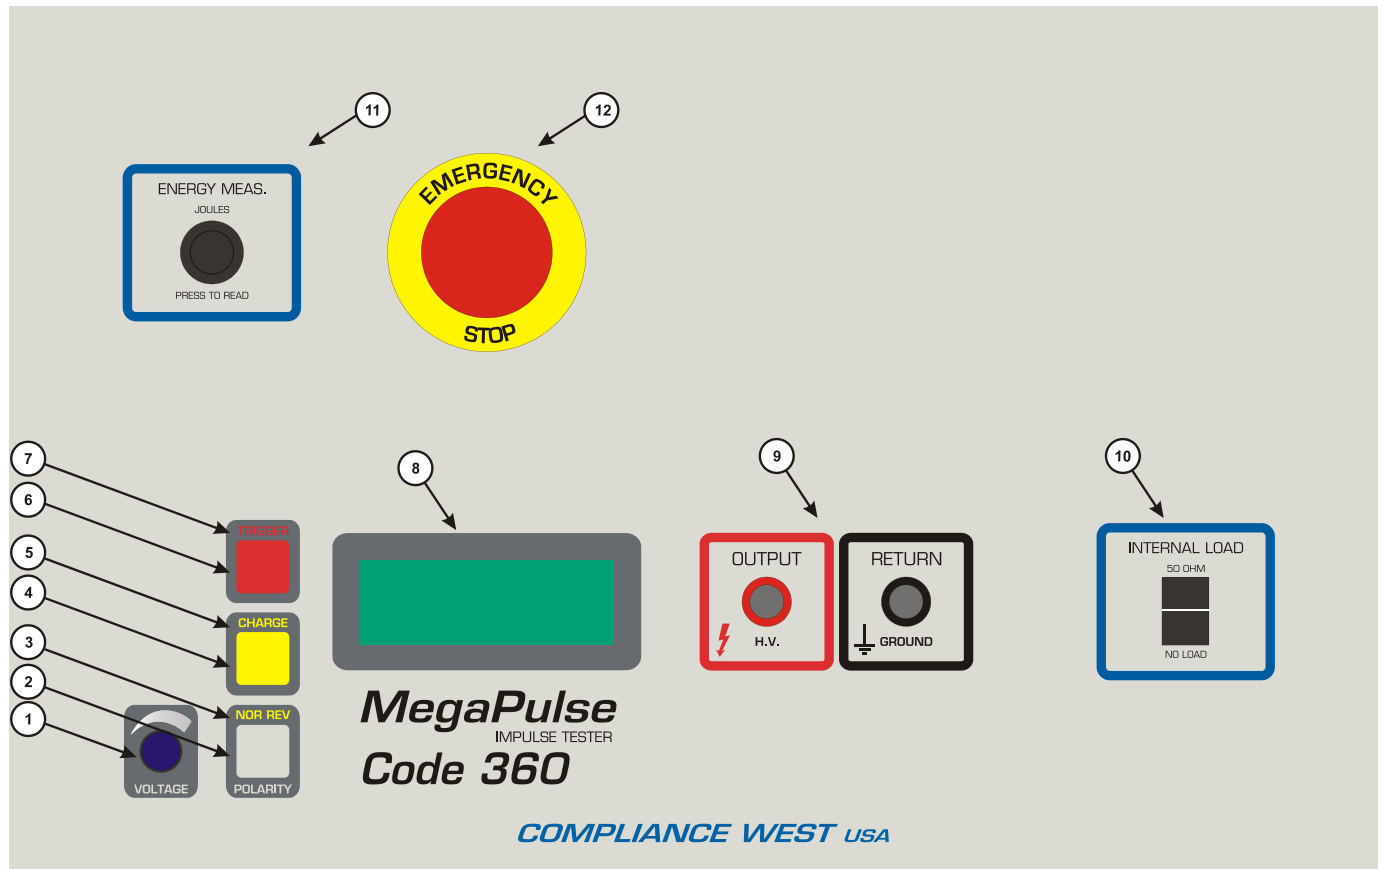
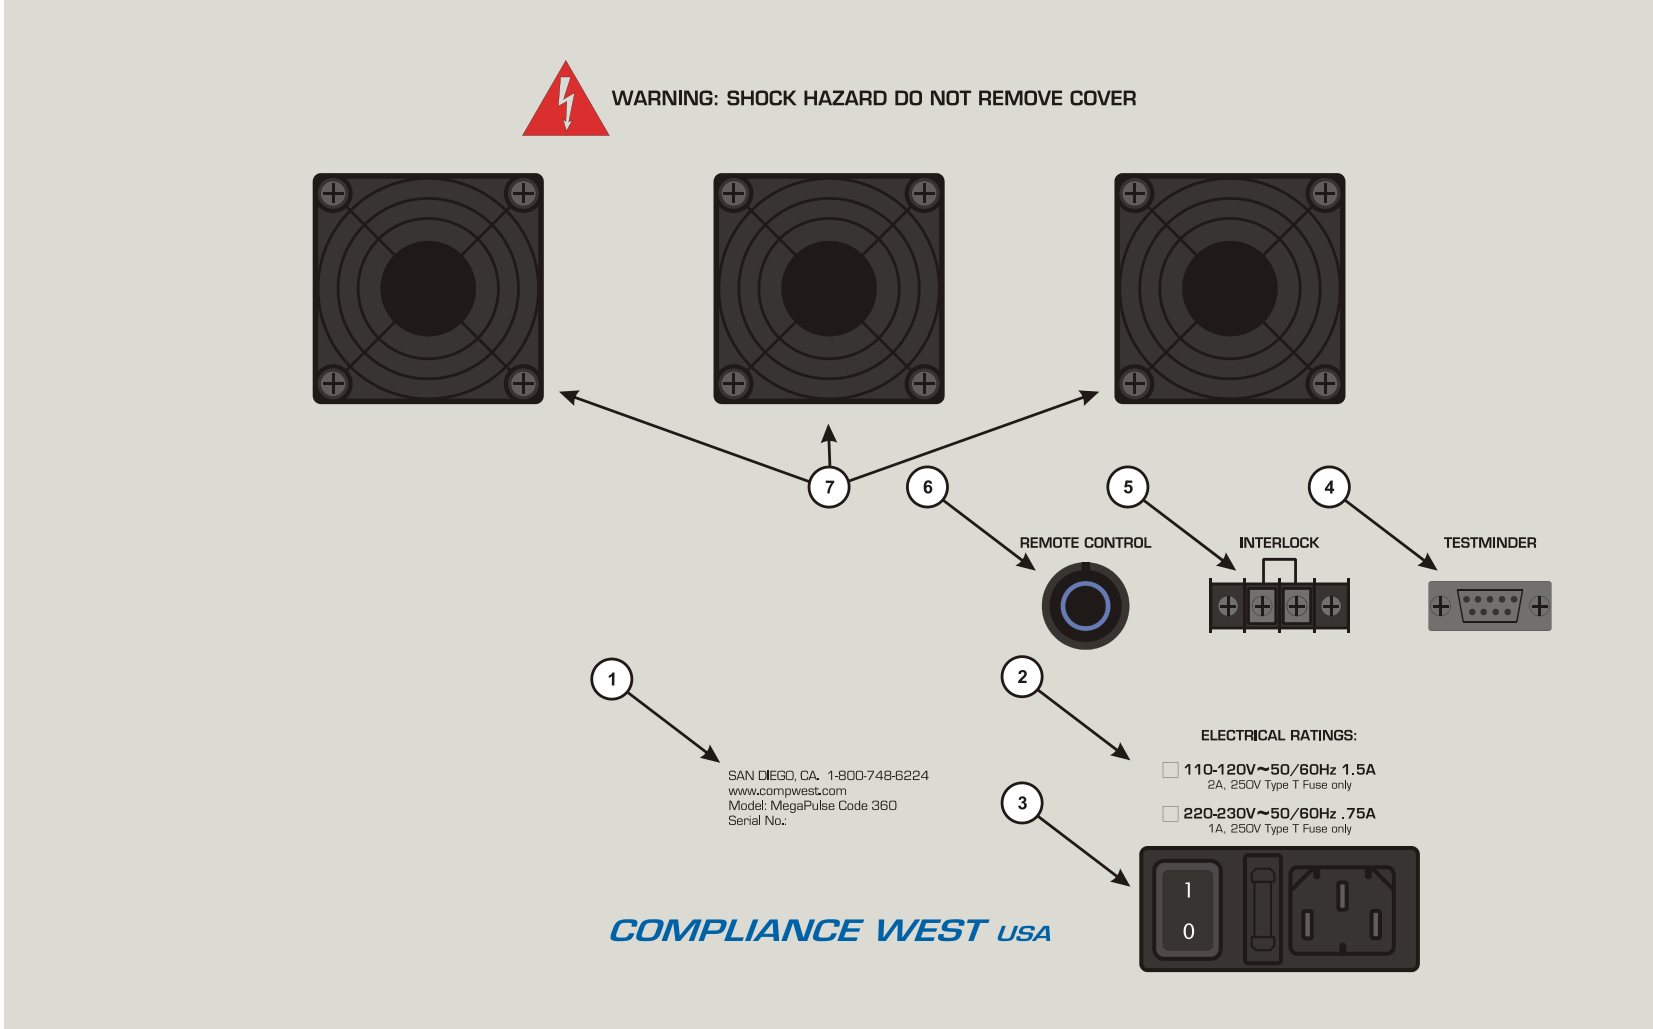

Figure 2. MegaPulse Code 360 Front Panel
Figure 3. MegaPulse Code 360 Rear Panel
Before using your Tester, take a few minutes to become familiar with the use of its controls, indicators and connectors. The front panel features of the MegaPulse are shown in Figure 2 and described in Table 1. The rear panel features of the MegaPulse are shown in Figure 3 and described in Table 2.
The Code 360 tester consists of two parts; the pulse generation portion and the measurement portion. Please refer to the general electric circuit shown in Figure 3 to show the function of the Code 360.
3. Set the front panel switches depending the type of test need it. Follow the front panel directions or see Figure 3 for the electrical diagram.